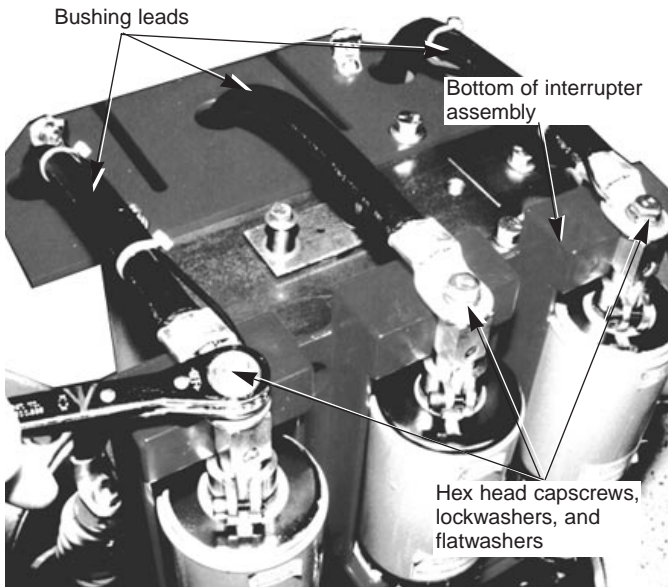

Figure 5.
4. Remove the three hex head capscrews, bronze lockwashers and brass flatwashers connecting the bushing leads to the bottom of the interrupter assembly and save the hardware (refer to Figure 5).